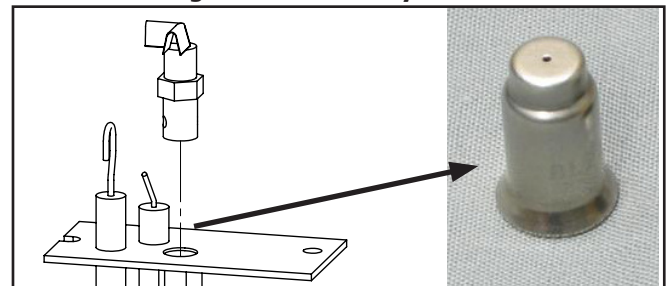

Figure 37: Pilot Orifice (not to scale)
4. Convert the existing pilot orifice with the one provided with the unit (see Figure 37) using a 7/16" wrench. Fully unscrew and remove the pilot head and replace the orifice insert, bell end down. Re-install and tighten the pilot, if the head does not reach proper orientation in the snug position then contact your Enviro dealer.